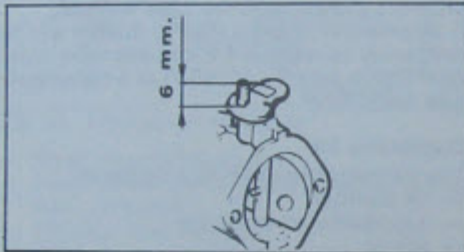

Fig. 16
- Reduce length of choke pin to protrude 6 mm to prevent fouling on bracket (see Fig. 16).